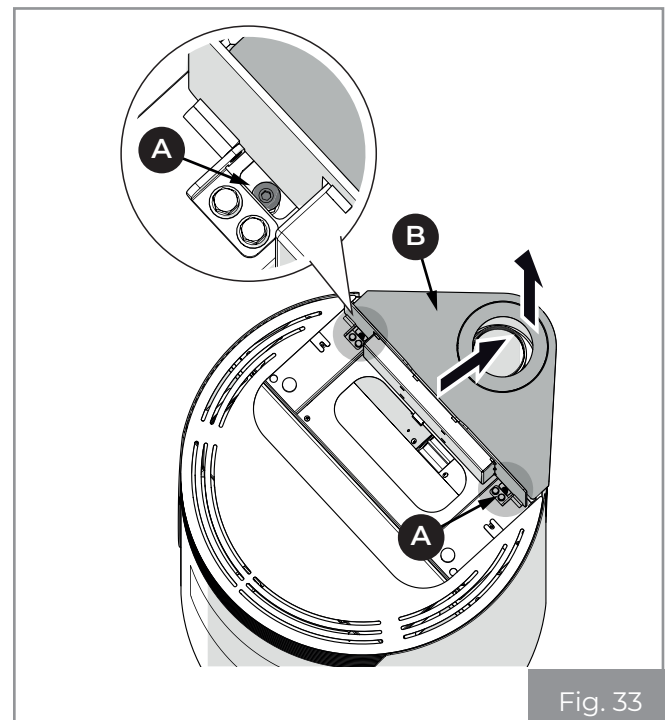

Fig. 33
- Loosen the screws **(A)** and remove the surface **(B)** (Fig. 33).